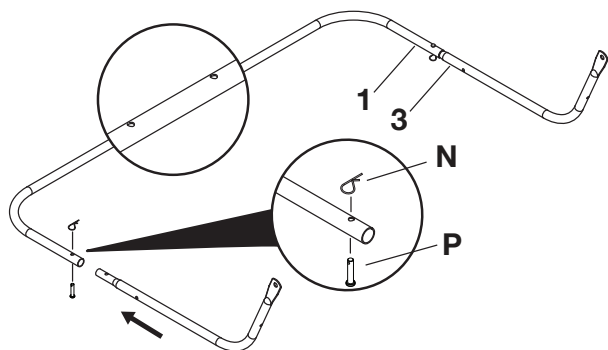

Figure 15
STEP 15: (SEE FIGURE 15)
- Connect the lower hopper tubes (3) to a rear hopper tube (1) using 1/4" x 1-1/8" clevis pins (P) and 3/32" hair cotter pins (N).